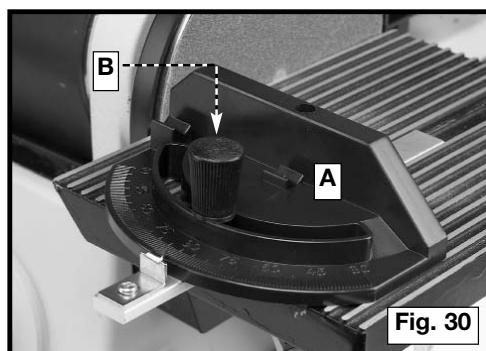

Fig. 30
Use the miter gauge (A) Fig. 30 on the disc table. You can rotate the miter gauge body right or left for angle or miter sanding by loosening the lock knob (B), rotating the miter gauge body, and tightening the lock knob.